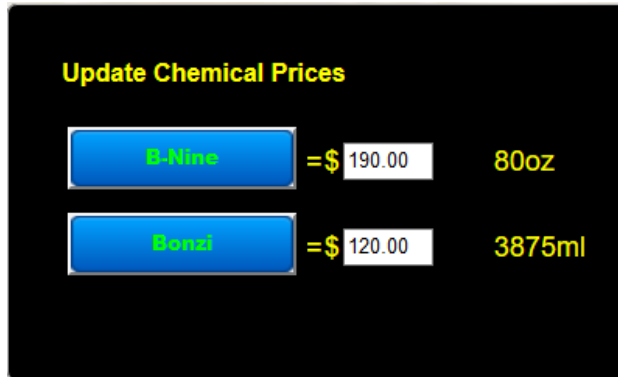

Fig. 16
1. This form allows quick access to updating all your chemical prices in one convenient location. (See fig. 16)